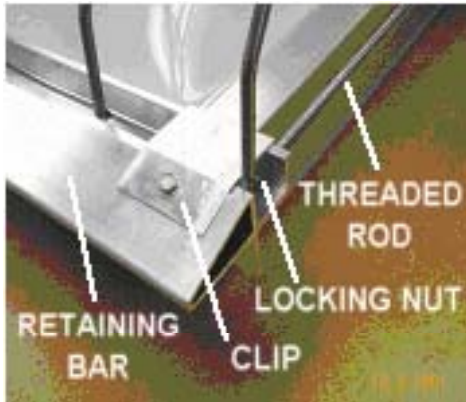

figure 1
7. Place a clip over the channel of the aluminum retaining bar matching the formed part of the clip to the notched area of the back of the bar. Using cordless drill set to medium torque and a 5/16" hex bit, install the enclosed #10 stainless steel, hex head, self-drilling screws through the hole in the clip and into the retaining bar. Install clip as shown in Fig. 1. Drill the screw through the retaining bar at the same angle, locking the clip onto the retaining bar taking care not to over torque. Repeat, installing a clip and screw on each corner of the unit including corners where two or more screens meet.